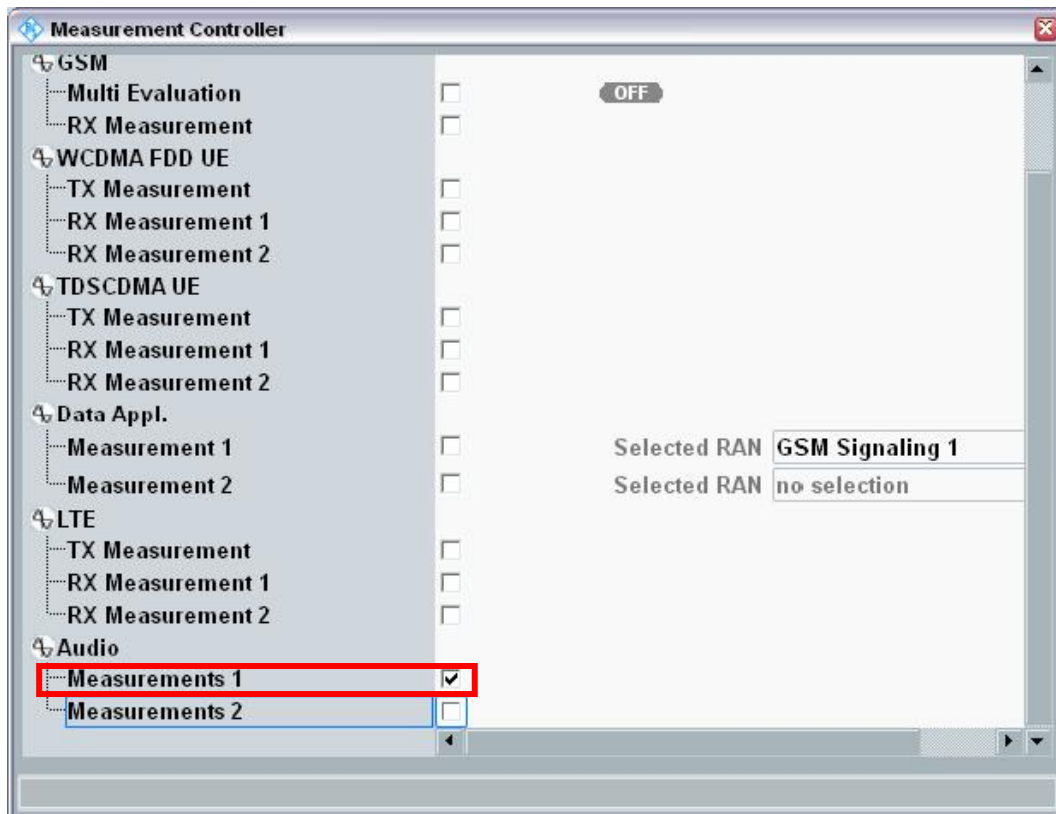

Figure 29: Selecting Measurement Task
1. Press the button **MEASURE** at the front panel of the CMW500 (**blue** box in Figure 10) and select **Audio Measurement 1** (see Figure 29: Selecting Measurement Task).
1. Select the Task **Audio Measurement 1** (see Figure 29: Selecting Measurement Task) and select this task by pressing **TASKS** (green box in Figure 10).